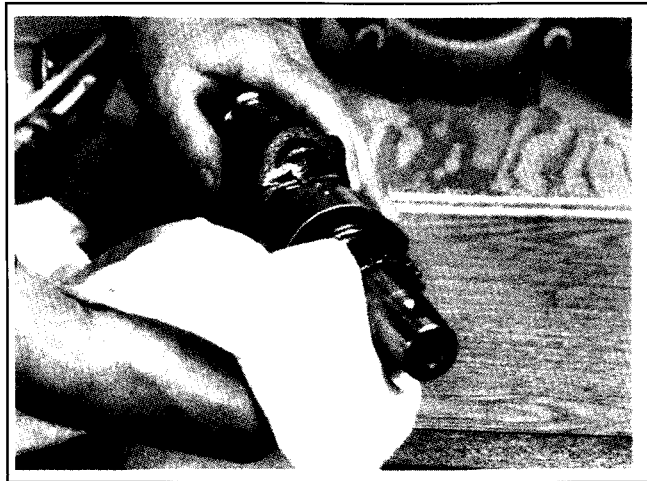

Figure 10-2. Heat Sprocket Before Installing.
2. If needed, heat sprocket with a 60 watt light bulb or on a hot plate. Then slip it into position on crankshaft. See Figure 10-2.